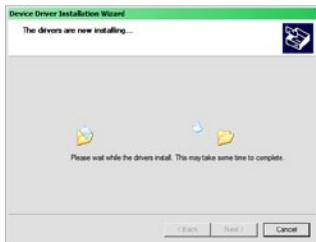

Figure 3
4. When the Driver has been installed click on the "Finish" button. Refer to figures 3 and 4.